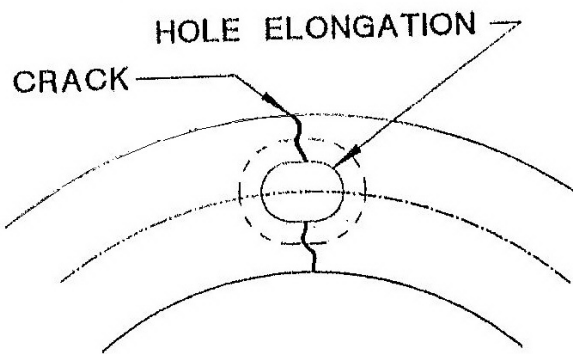

Figure 5 The disk is broken through the bolt hole.
1. The disk is broken through the bolt hole as shown in Figure 5. This indicates loose coupling bolts. Replace the disk pack and tighten locknuts to the specified torque.